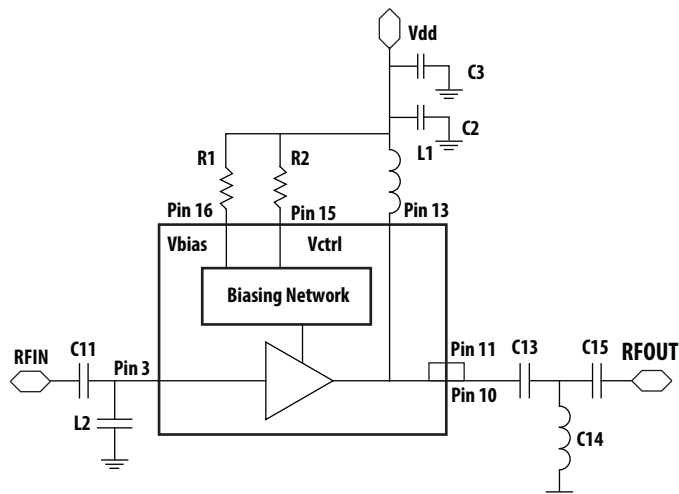

Figure 46. Circuit Diagram
1.  $V_{bias}$  and  $V_{ctrl}$  can be externally controlled by change external biasing resistors  $R1 = R_{bias}$  and  $R2 = R_{ctrl}$  (as shown in Fig. 46).
- Vbias and Vctrl can be externally controlled by change external biasing resistors  $R1 = R_{bias}$  and  $R2 = R_{ctrl}$  (as shown in Fig. 46).